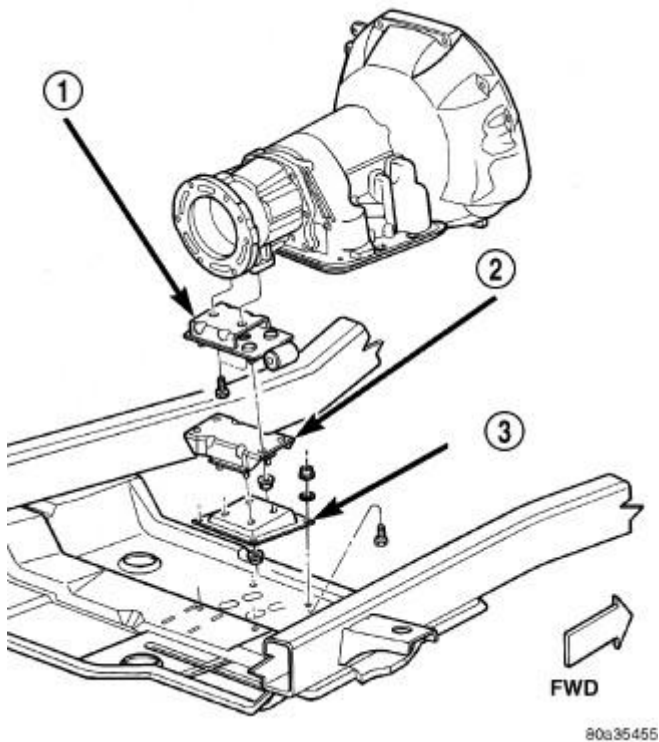

Fig. 160: Rear Mount (Automatic Transmission)
7. Position the support cushion (2) to the transmission mount bracket and install nuts. Refer to **Fig. 160**. Tighten the nuts to 41 N.m (30 ft. lbs.) torque.